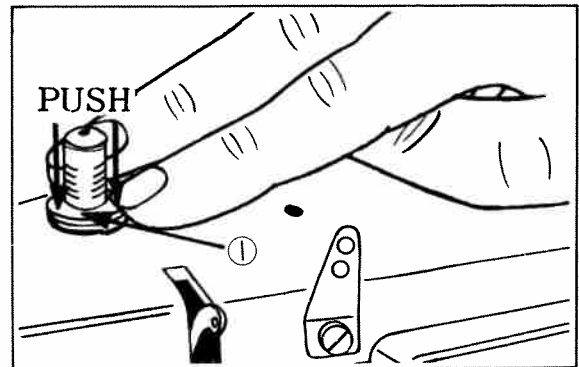
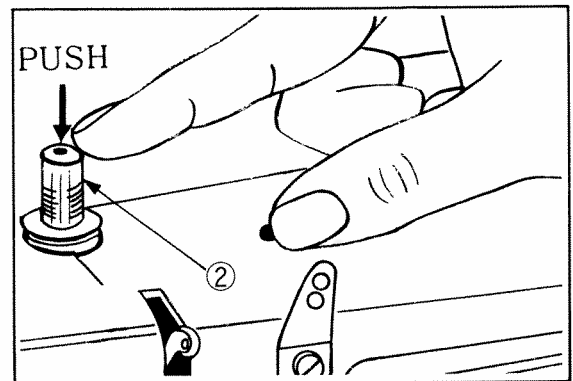

Fig. 17
Fig. 18
Release all the way by pressing the snap lock, (①, Fig. 17) and then press cap (②, Fig. 18) down again to halfway spot.
In order to move the fabric freely in any direction for darning, mending and certain kinds of free-hand embroidery, release the cap (②, Fig. 18) completely by pressing down on the snap lock, (①, Fig. 17) Press "DOWN" button all the way down, which drops the feed well below the needle plate. To return feed to normal, press "UP" button, push cap down. (Fig. 18)